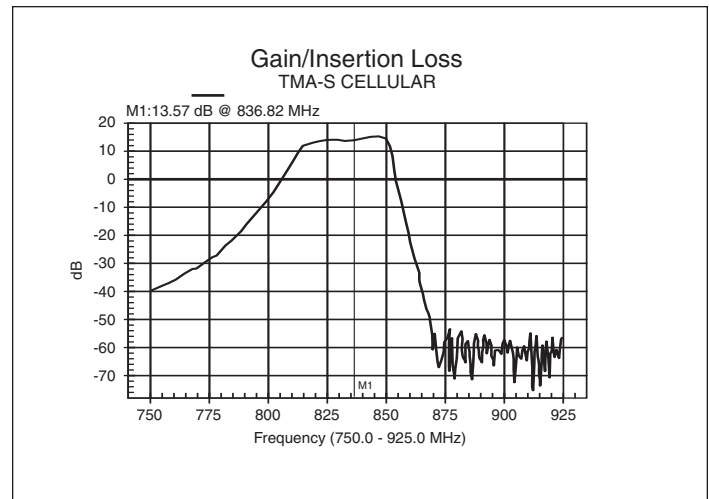

Figure 11. Transmission measurement results for an amplifier.
8. Measure the gain of the amplifier by measuring the frequency response of the amplifier without power. Then measure the gain with the power supply to the amplifier tuned on (see Figures 11 and 12).